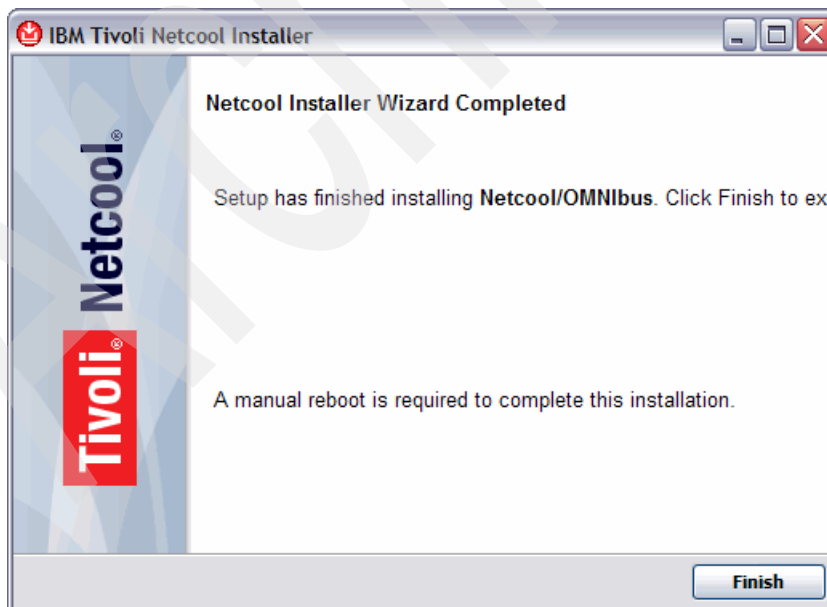

Figure 4-6 IBM Tivoli Netcool/OMNIBus installation complete
6. Reboot the machine at the end of the installation after clicking **Finish**, as shown in Figure 4-6.